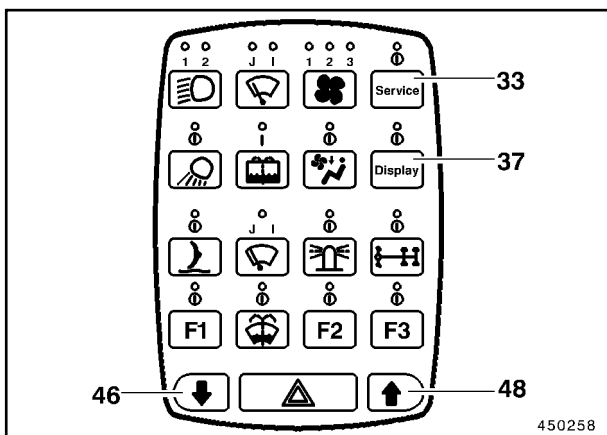
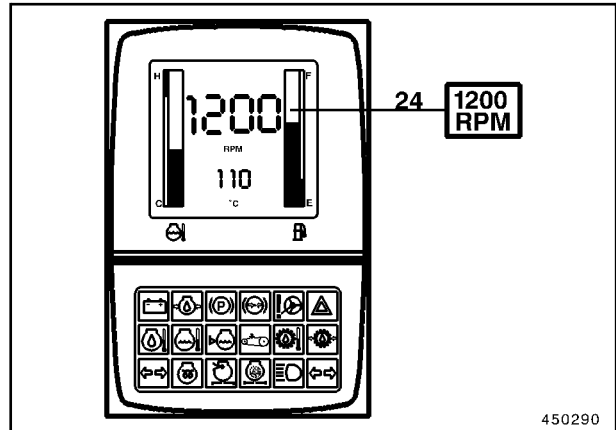

Fig. 6
Fig. 7
- Run engine at low speed (1200 - 1500 rpm). The engine speed can be checked when the machine is stationary by pressing key (37, Fig. 6) "Display". The display (24) now indicates the engine speed. The speed is indicated in RPM = min⁻¹ (Fig. 7).